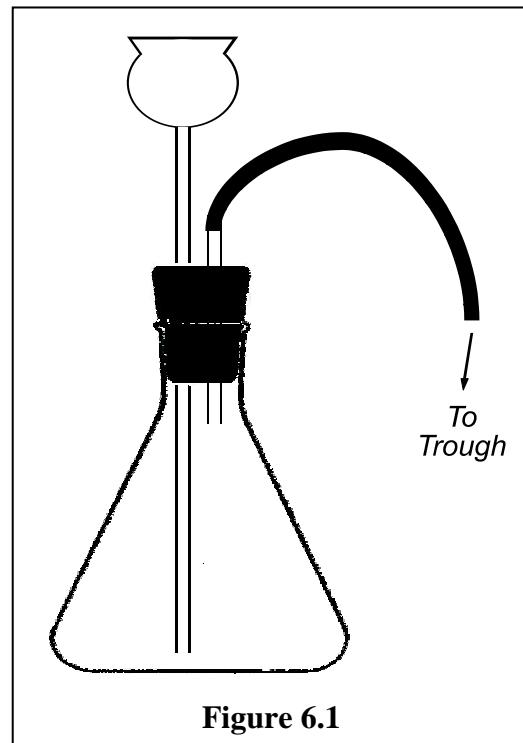

Figure 6.1
3. Using a 125 mL Erlenmeyer flask and a two-hole stopper fitted with a glass tube, assemble the hydrogen generator as shown in Figure 6.1. Make sure all fittings (thistle tube through the stopper, glass tube through the stopper, and rubber tubing to the glass tube) are tight. A hose clamp or wire winding may be needed.